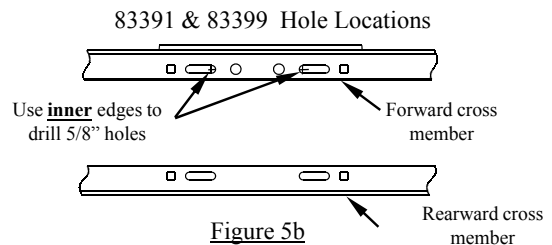

Figure 5b
- 8b. **For 83391 & 83399** use the **inner** edges of the long slots in the forward cross member as a template to drill 5/8" diameter holes through the truck bed as shown in Figure 5b. Not all holes can be drilled from under the vehicle, but will be done later from inside the bed.